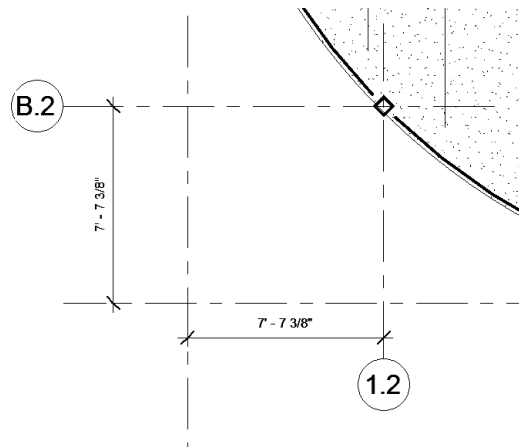

FIGURE 7-6.6 Dimension near curved beam
10. Add two dimensions to locate the grids near the curved beams as shown in Figure 7-6.6.